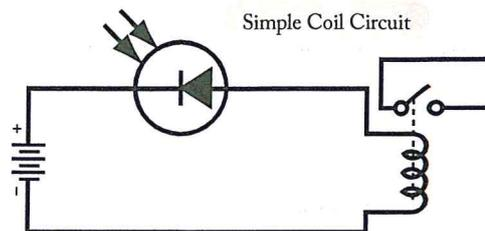

Figure 1-23. Illustrates a photodiode in a coil circuit.
**Figure 1-23** illustrates a photodiode in a coil circuit. In this case, the light striking the photodiode causes current to flow in the circuit whereas the diode would have otherwise blocked it. The result is the coil energizes and closes another circuit enabling its operation. Thermal energy produces minority carriers in a diode. As the temperature rises, so does the current. Light energy can also produce minority carriers. By using a small window